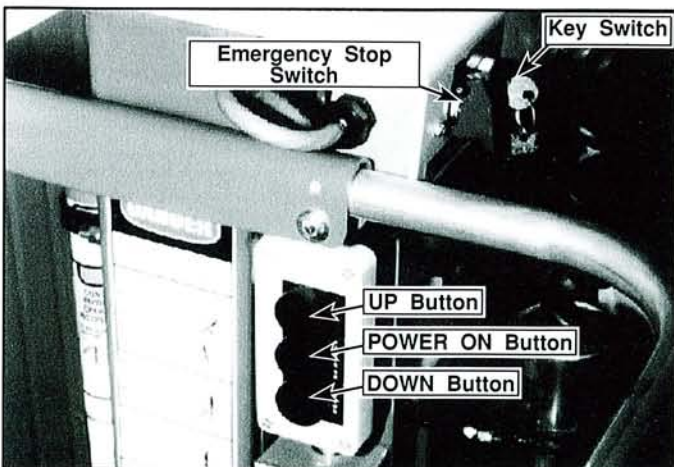

Figure 4: Platform Controls
9. Turn ON Platform Emergency Stop Switch, located on the right side of the pinch shield (Figure 4). Open switch guard and push switch toward guard. In the event of an emergency, push the switch guard to stop the unit.
10. Turn **ON** Key Switch located on the right side of the pinch shield (Figure 4).
11. Push both the middle and top buttons on the Control Box (Figure 4) at the same time to elevate the platform. Release the buttons to stop.